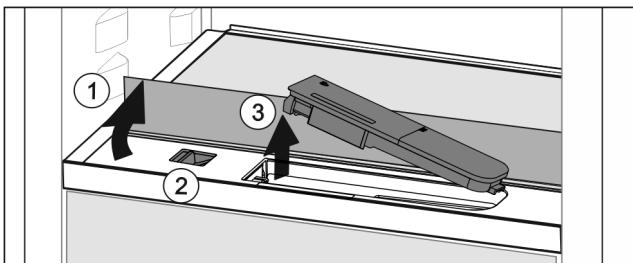

Fig. 126
- ▶ Lift the glass panel and fold to the back as far as it will go Fig. 126 (1).
- ▶ Slide the slider Fig. 126 (2) to the left.
- ▶ Remove the water tank Fig. 126 (3).